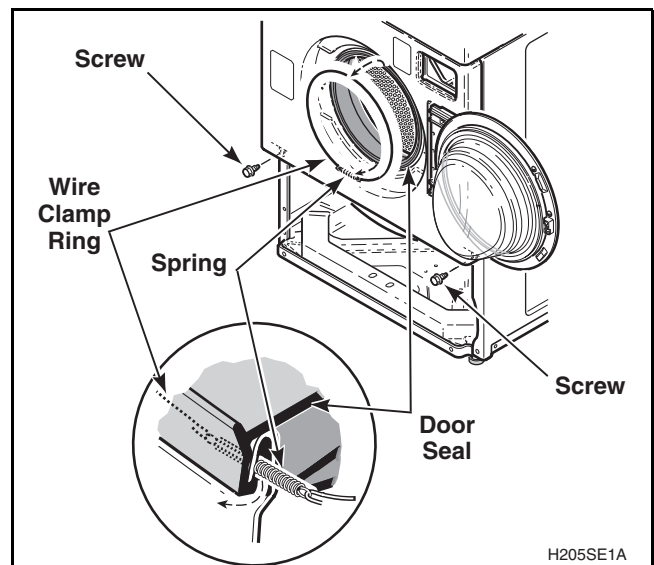

Figure 18
- Open loading door. Carefully remove wire clamp ring from groove with small flat blade screwdriver. Spring is in 6 o'clock position. Refer to *Figure 18*.